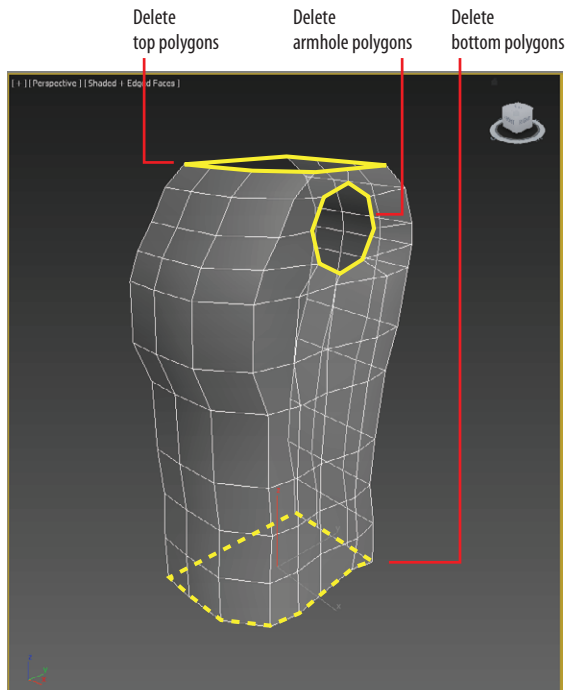

FIGURE 7.16 Delete the armhole polygons as well as the topmost and bottommost polygons of the model.
29. Also select and delete the top and bottom polygons on the model, as shown in Figure 7.16. Your torso should now have only a front, side, and back.